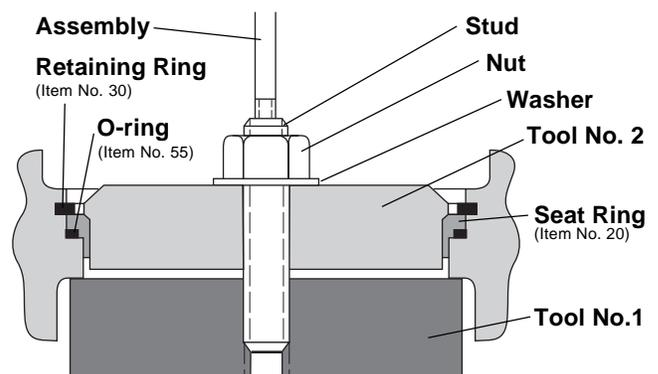

Figure 1: High Temperature Seat Ring
Valtek Mark Eight valves used on high temperature applications do not have a seat retainer. Instead, a spiral retaining ring is used to hold the seat firmly in place. Special tools for disassembly are included with the valve shipment (if replacements are required, contact a local Flowserve sales office). To disassemble these special Valtek Mark Eight valves, refer to Figure 1 and proceed as follows:
2. Insert the base plate (installation tool No. 1) under the seat ring so that the tool engages the body (refer to Figure 1).
Refer to Figure 1 and proceed as follows: